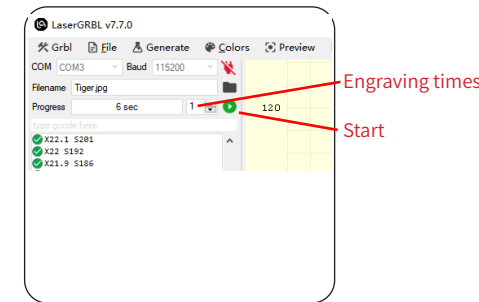

Figure 18 Start engraving/cutting
- After completing all the above settings, click the green button as shown in the Figure 18 to start engraving/cutting. There is an editable number next to the start button, and this number is the times of engraving /cutting. LaserGRBL allows multiple consecutive operations on the same image. This function is especially useful for cutting.